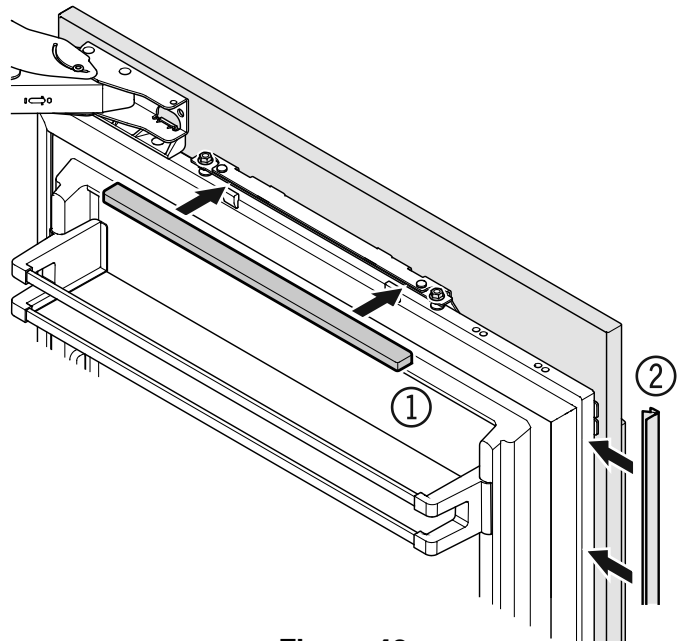

Figure 42
11. Click cover (1) into place. Insert the cover strip provided (2) between refrigerator door and panel (Figure 42).